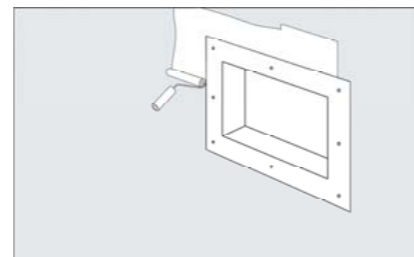

Fig. 3.
STEP 3: Follow Membrane Application Instructions. Apply primer over full shower wall surface (as directed). (Fig 3).